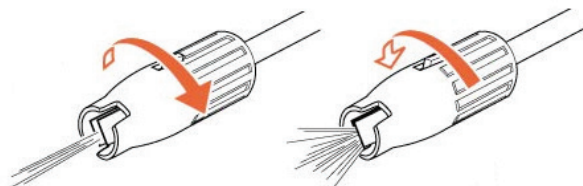

Figure 12
2. Twist the nozzle with the other hand; see figure 12.